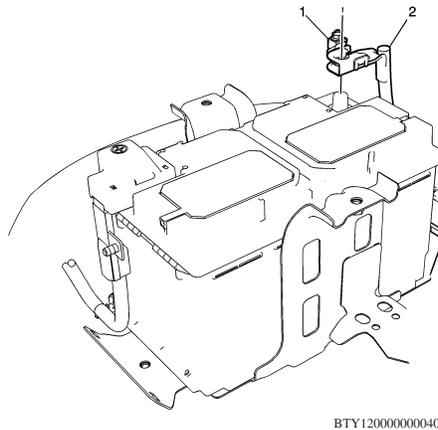

Fig. 1 Battery ground cable removal
5. Loosen battery ground cable terminal nut (1), Fig. 1.
6. Disconnect battery ground cable (2) from battery, Fig. 1.
7. Install battery ground cable (2) to battery, Fig. 1. **Torque** battery cable nut to 11 ft. lbs.